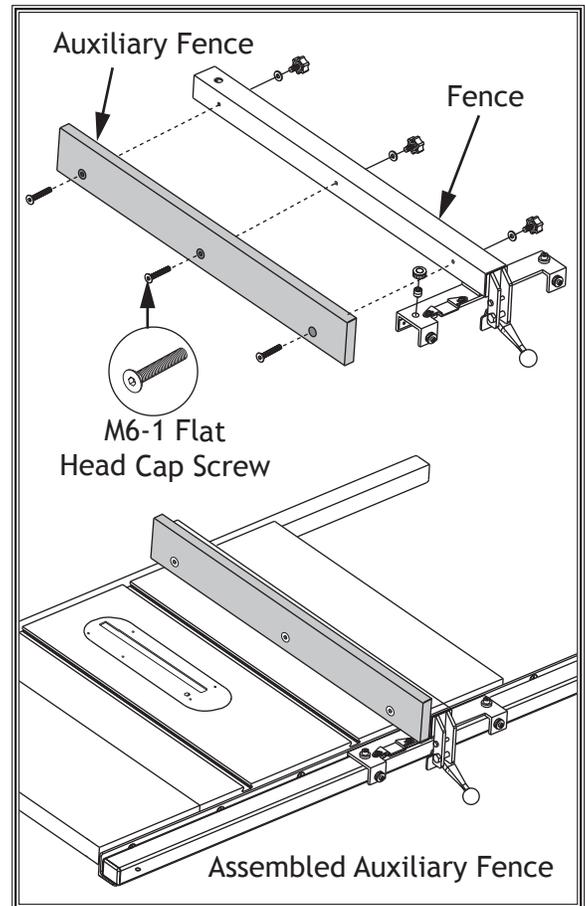
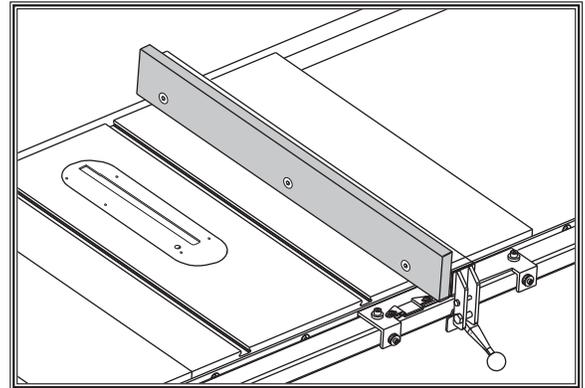

Figure 77. Example of auxiliary fence attached to Model W1851 fence face.
Figure 79. Example auxiliary fence attached to included fence.
The fence should be similar to the one in **Figure 77** when installed.
6. Insert (3) flat head cap screws through holes in auxiliary fence board (see **Figure 77** on **Page 51**) and secure with knobs and flat washers removed earlier. The end result should be similar to **Figure 79**.